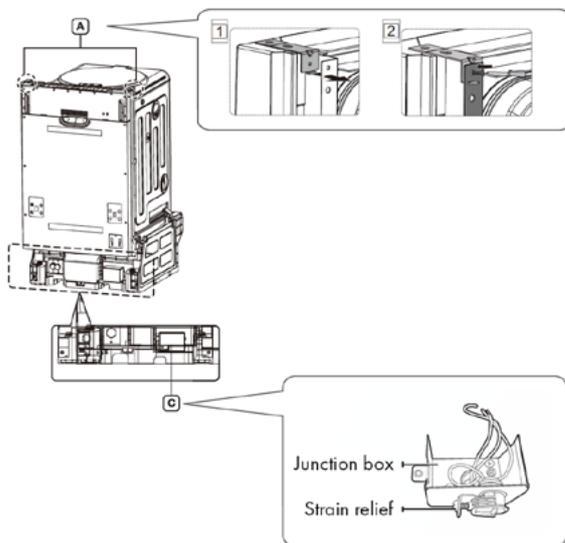

Figure 4
3. Remove the junction box cover located at the bottom front right of the dishwasher using a screwdriver, and then install the strain relief (see Figure 4-C). Make sure to keep the junction box cover; it is used in "Step 11: Electrical Wiring Connections" on page 21.
4. If the countertop is made of wood or a material not damaged by drilling, attach the two installation brackets supplied with the dishwasher using the supplied screws (see Figure 4-A). They will be used in "" on page 16.